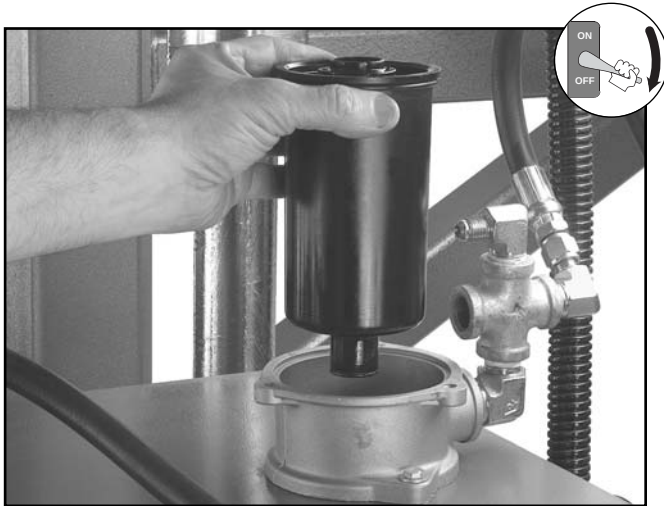

Figure 30. Removing filter assembly from tank.
5. Lift the filter assembly out of the tank as shown in **Figure 30**.